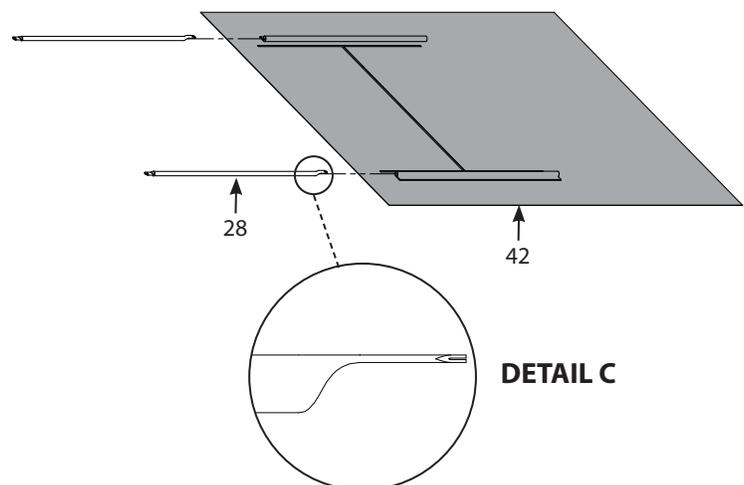

FIGURE 11
While paying attention to the orientation, **SEE DETAIL C,** slide the four (28) window poles into the sewn sleeves on the two side wall panels (42) as shown, two poles per panel. **SEE FIGURE 11.**
13. Repeat similar process for back wall panel, slide the two (29) window poles into the sewn sleeves on the back wall panel (43). **SEE FIGURE 11.**